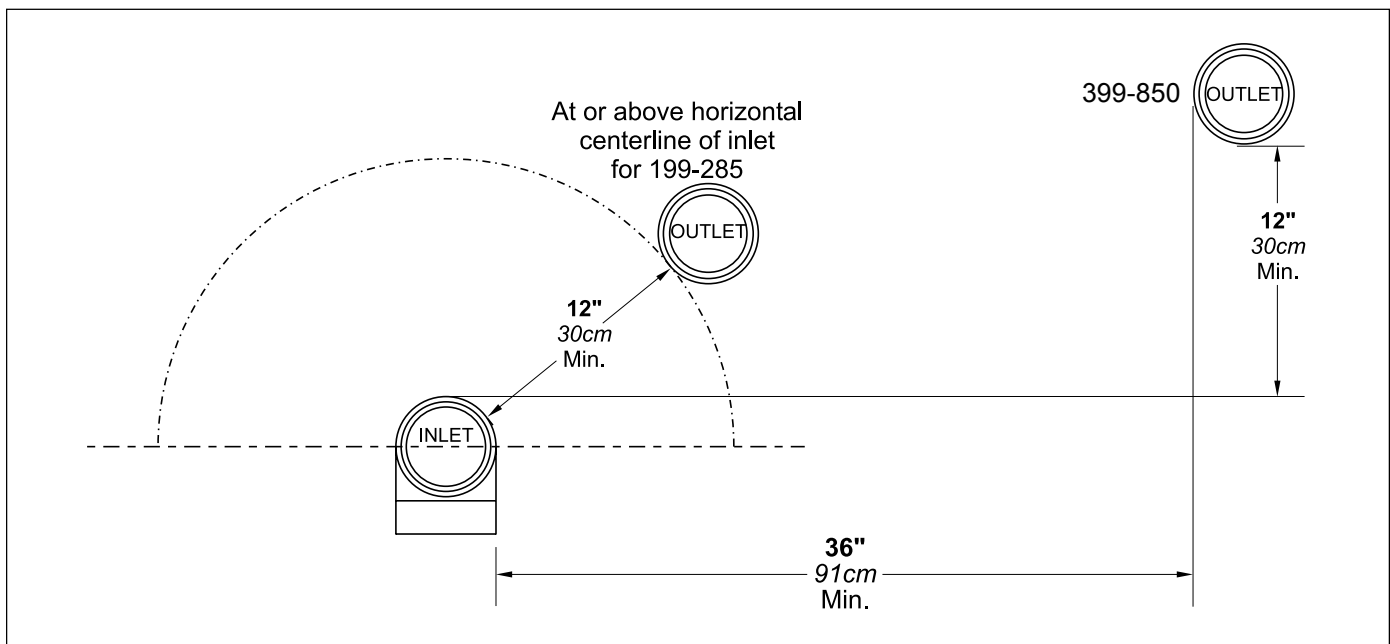

Figure 13. Minimum Venting Distance.
7. Vent outlet for sizes 199-285 must be no lower than the center of the air inlet, and must be at least 12" (30cm) away from the air inlet. Vent outlets for models 500-850 must be at least 12" above the top of the air inlet, and must be at least 36" (90cm) horizontally from the air inlet (see Figure 13).
When the unit is vented through the roof, the vent must extend at least 3 feet (0.9m) above the point at which it penetrates the roof. It must extend at least 2 feet (0.6m) higher than any portion of a building within a horizontal distance of 10 feet (3.0m), and high enough above the roof line to prevent blockage from snow. The vent terminal included with the Keystone can be used in both vertical and horizontal applications. When the combustion air is taken from the roof, the combustion air must terminate at least 12" (30cm) below the vent terminal (see Figure 13).
When combustion air is taken from the roof, a field-supplied rain cap or an elbow arrangement must be used to prevent entry of rain water (see Figure 13). The opening on the end of the terminal must be at least 12" (30cm) above the point at which it penetrates the roof, and high enough above the roof line to prevent blockage from snow. When the vent terminates on the roof, the combustion air must terminate at least 12" (30cm) below the vent terminal.